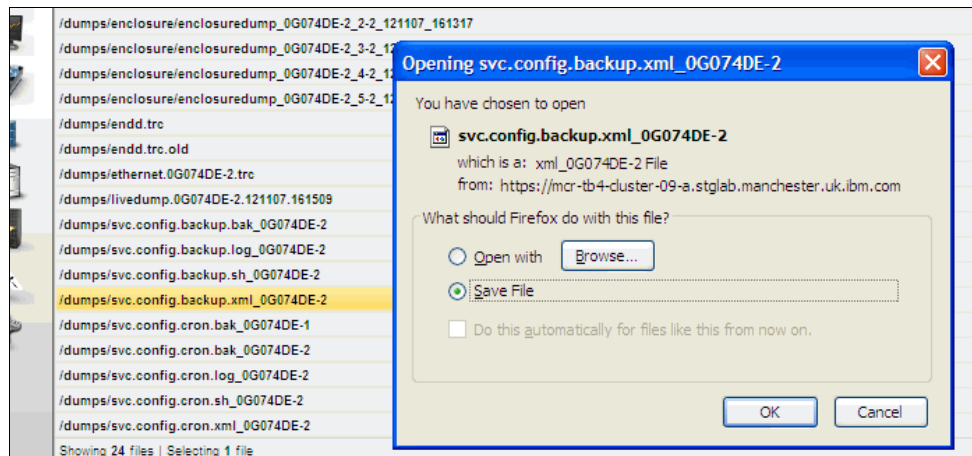

Figure 9-20 Configuration backup save file
5. Save the configuration backup file on your management workstation (as shown in Figure 9-20) where it can be found easily.